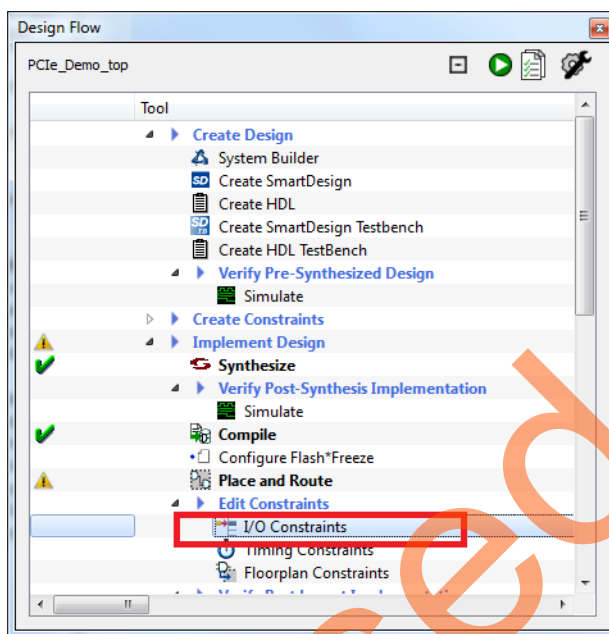

Figure 16 • I/O Constraints
1. Double-click **I/O Constraints** in the **Design Flow** window as shown in Figure 16. The **I/O Editor** window is displayed after completing **Synthesize and Compile**.